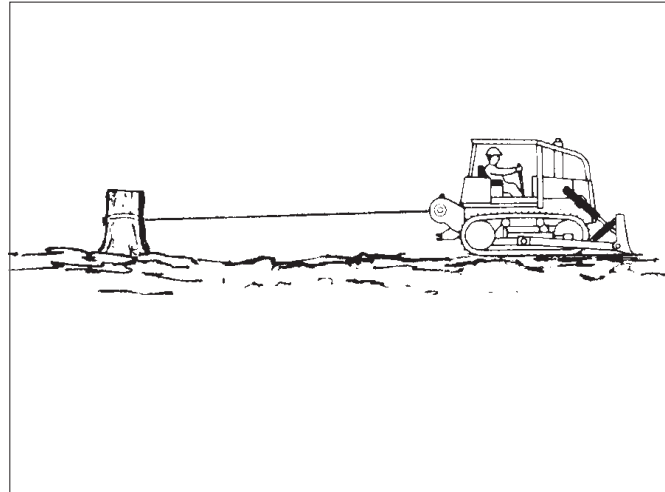

Figure 19 Moving a Disabled Vehicle (Step A)
A. A vehicle equipped with a winch can be used to remove itself from mud or other areas where it cannot move using only the drive wheels or tracks. See Figure 19. Use the following procedure: